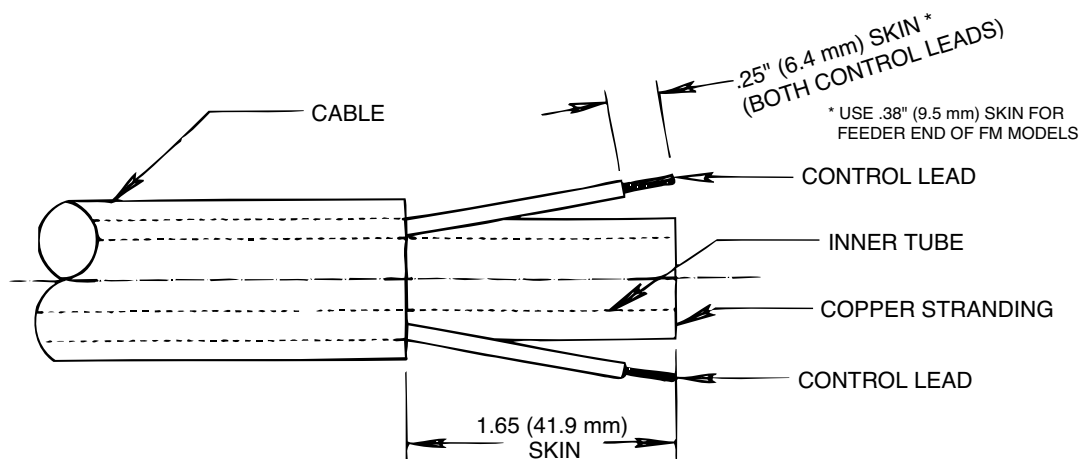

FIGURE E.2
- f) Cut off the damaged section of the cable and strip off the outer jacket as shown in Figure E.2. Be careful not to cut the insulation on the control wires while stripping the jacket. Strip the red and white control leads 1/4 inch (6.4 mm) from the end and crimp a new S19492-2 terminal to each lead.
- g) Cut off the damaged section of cable and strip off the outer jacket as shown in Figure E.2. Be careful not to cut the insulation on the control wires while stripping the jacket. Strip the red and white control leads 3/8 inch (9.5 mm) from the end.